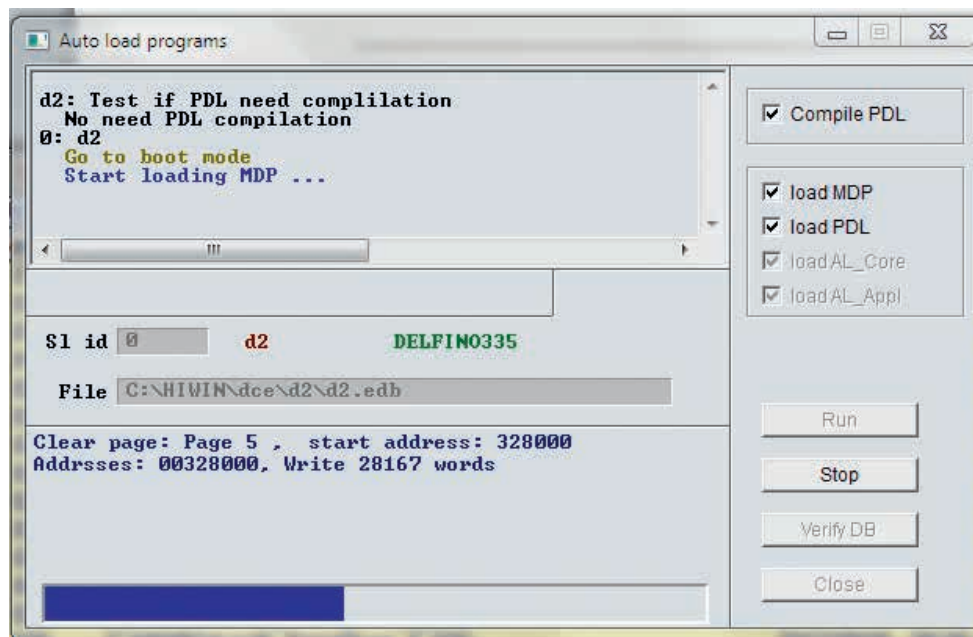

Fig. 6.69 “Upgrade/Downgrade firmware” – “Auto load programs”
- ▶ “Lightening” opens a new **“Auto load programs”** window and indicates the progress using a blue progress bar (see Fig. 6.69).